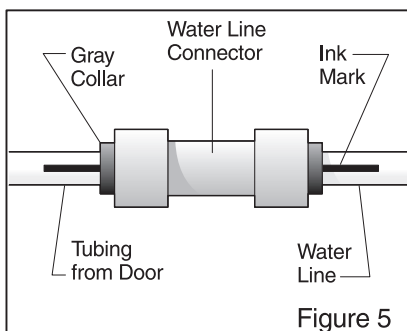

Figure 5
3. **IMPORTANT:** To reinstall water line connector, push door tube firmly into connector until connector touches the black mark on the tube and stops (Figure 5). This step is critical to ensure that the water line does not leak.